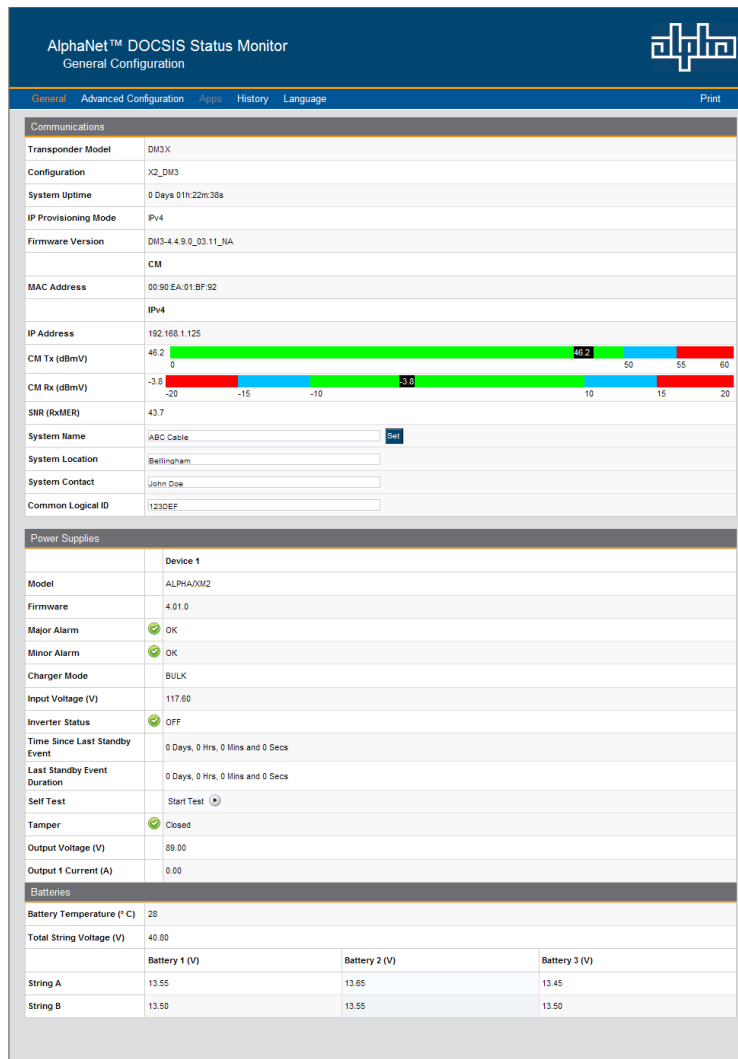

Fig. 4-6, Web Server Home Page
4. The DM3X Web server home page will appear (Fig. 4-6).